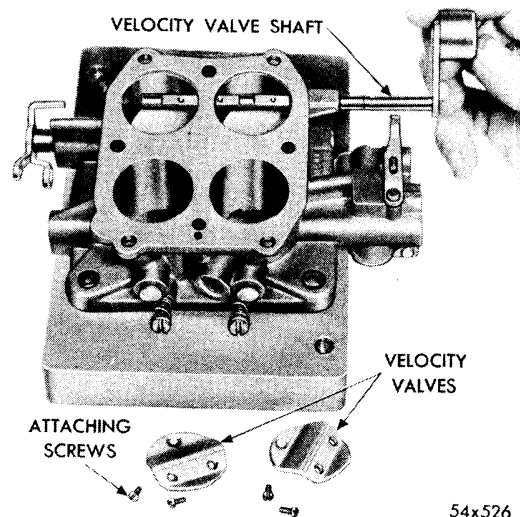

Fig. 35—Removing or Installing Velocity Valve Shaft
- (8) Remove the four screws that hold the velocity valves to the velocity shaft.
- (9) Lift out the velocity valves, and withdraw the velocity valve shaft, with a twisting motion, as shown in Figure 35.